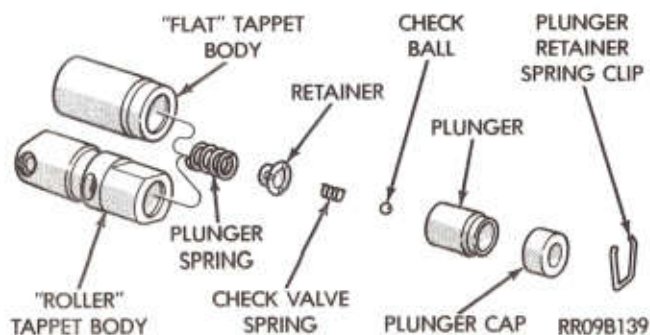

Fig. 22—Hydraulic Tappet Assemblies
Disassembly (Fig. 22)
- (1) Clean all tappet parts in a solvent that will remove all varnish and carbon.
- (2) Replace tappets that are unfit for further service with new assemblies.
- (3) If plunger shows signs of scoring or wear and valve is pitted, or if valve seat on end of plunger indicates any condition that would prevent valve from seating, install a new tappet assembly.
- (4) Assemble tappets (Fig. 22).